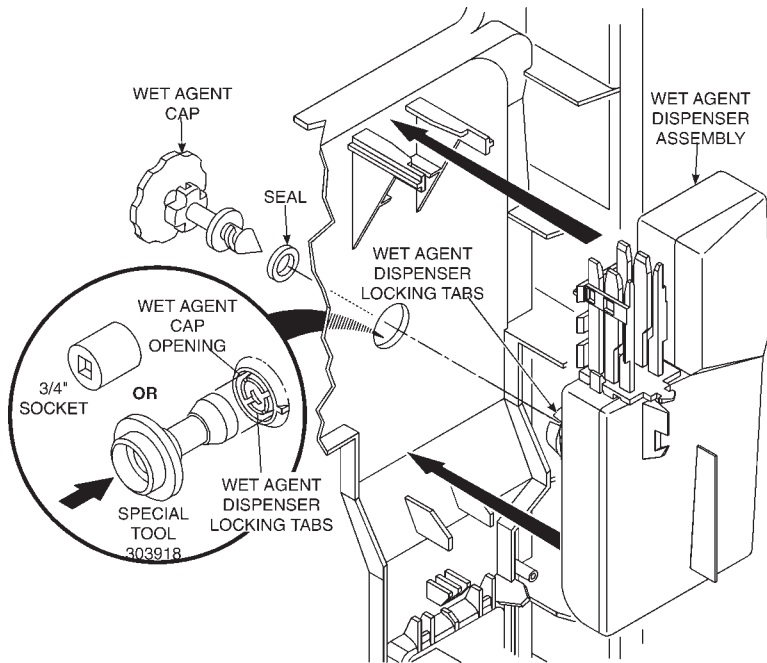

Fig. 2-17
3. Turn the wet agent cap and seal assembly counterclockwise and remove it. (Fig. 2-17)
5. Use Special Tool - Part No. 303918 or a  $\frac{3}{4}$ " socket to press over the attaching tabs in the wet agent cap opening. Remove wet agent dispenser assembly. (Fig. 2-17)